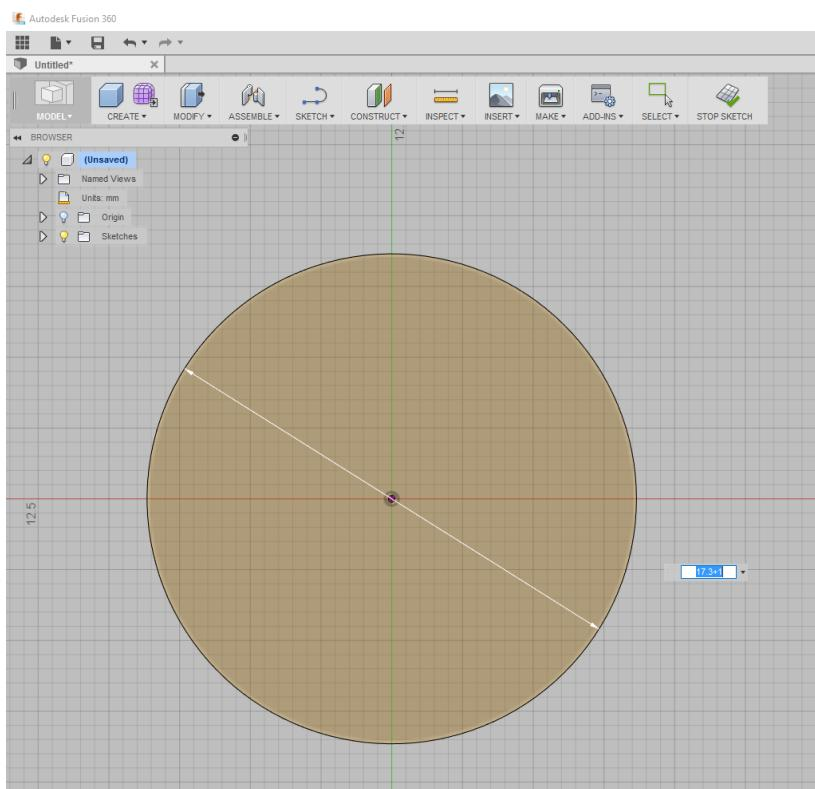

Figure 11-12. In the sketch environment, double-clicking the diameter number allows for editing. The field entry now reads "17.3+1."
13. Change 17.3 to 18.3 either by directly typing that number in, or doing the addition as shown in Figure 11-12.